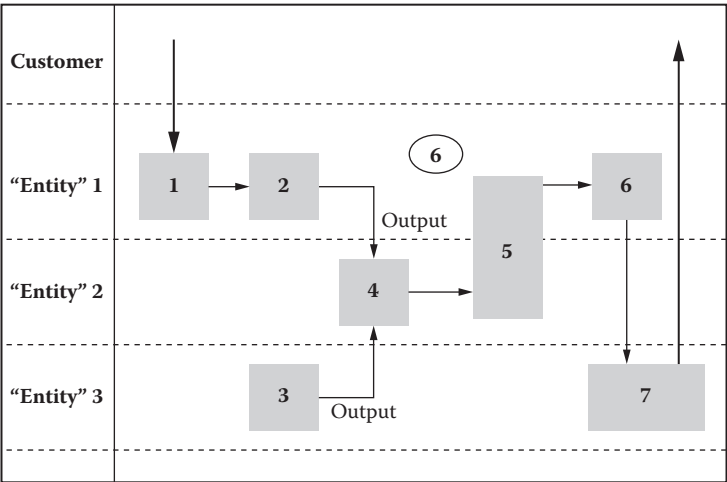

Figure 5.20 Swimlane diagram (partial); outputs and connections added and labeled using Post-it notes.
6. Add and label all inputs and outputs (Figure 5.20).